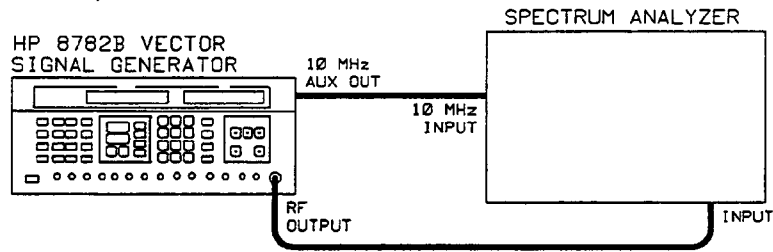

Figure 5-4. RF Switch On/Off Ratio Test Setup
1. Set up the equipment as shown in Figure 5-4 and the Test Equipment Settings table.